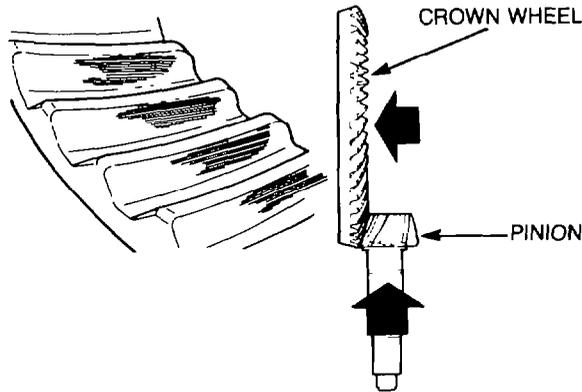

Figure 213 — High Contact Area
- x. Fig. 213 illustrates a high contact area, which indicates that the pinion shaft is set too far out. Increase the thickness of the shims between the pinion inner bearing cup and the carrier to obtain the correct pattern. Slight outward movement of the crownwheel may be necessary to obtain the correct pattern.